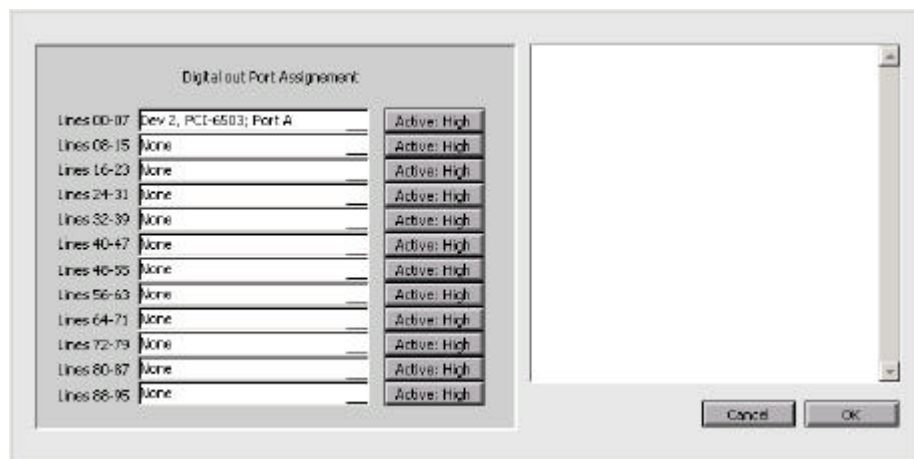

Figure 3: Configuration of digital ports in CellWorks
- ❑ Usually the VD-24-01 is used with the PCI-6503 configured for port A (in CellWorks: Hardware configuration – Digital lines out – Digital out Port Assignment - Lines 00-07 assigned to PCI-6503, port A; see Figure 3).